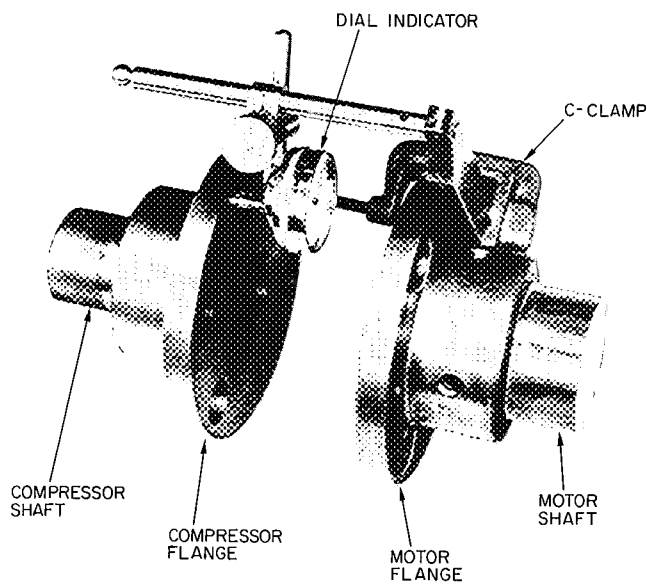
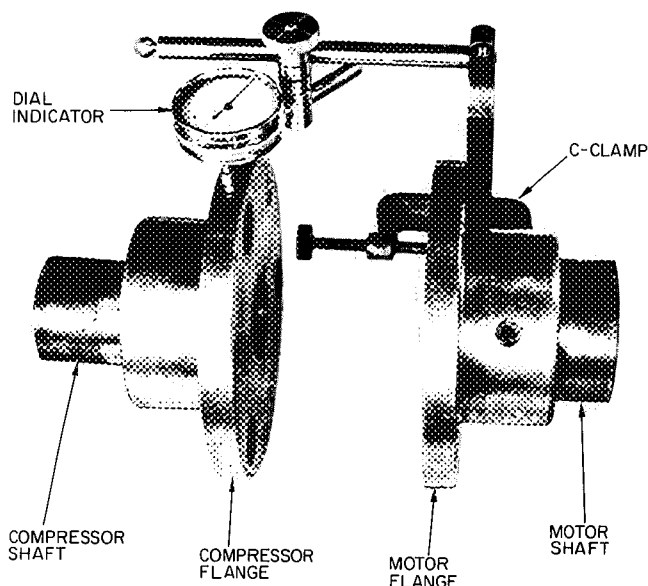
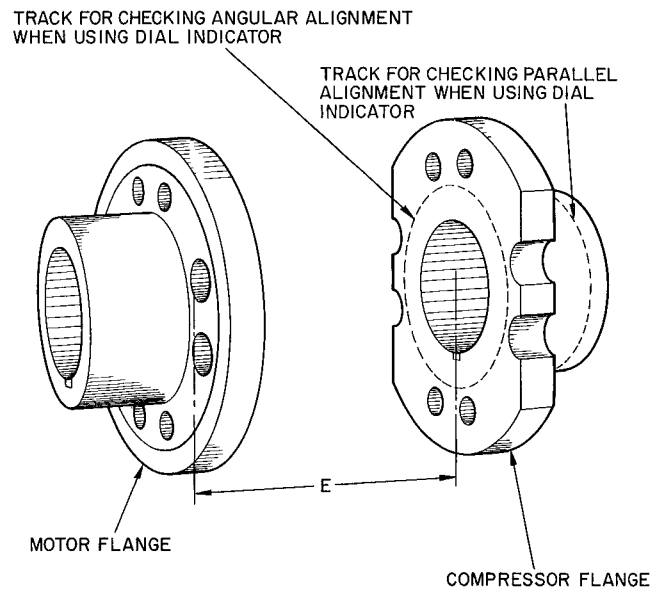

Fig. 71 – Dial Indicator Set Up to Check Angular Alignment
Fig. 72 — Dial Indicator Set Up to Check Parallel Alignment
Fig. 76 — 5H80-623 Coupling Alignment Tracks
1. Mount the indicator on the motor flange. Be sure that the indicator is securely clamped and that the entire assembly is rigid. A typical arrangement is shown in Fig. 71. Note, however, that the indicator track for the 5H80-623 coupling is somewhat different, as indicated by Fig. 76.
2. Adjust the indicator so that its stem will contact the inside face of the compressor flange at all times while the indicator is being rotated thru 360 degrees with the motor flange. Figure 71 applies to all couplings other than 5H80-623. For the 5H80-623 coupling, refer to the indicator track on Fig. 76.
1. Mount the indicator on the motor flange. On all couplings except 5H80-623, adjust the indicator so that the indicator button will contact the periphery of the compressor flange while rotating the motor flange thru 360 degrees (see Fig. 72). For the 5H80-623 coupling, adjust the indicator button to contact the compressor flange hub as shown in Fig. 76 while rotating the motor flange thru 360 degrees.